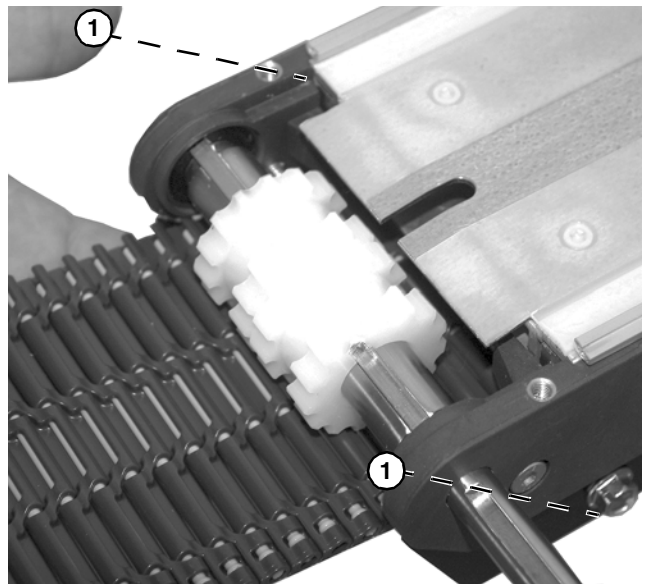

Figure 27
5. Remove belt by pulling belt out of bottom wear strips (**Figure 27, item 1**).